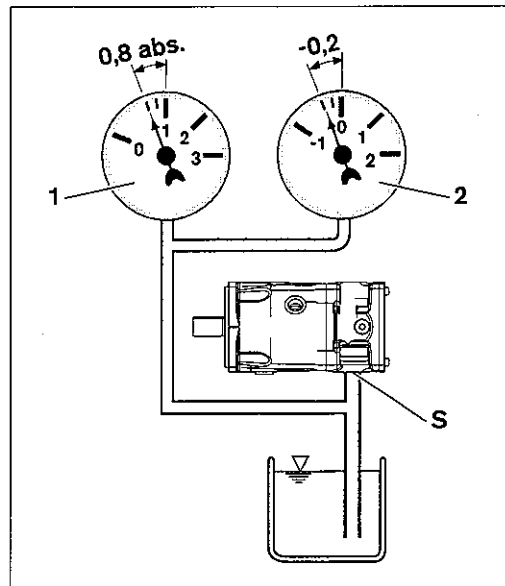

Fig. 24: Suction pressure
- Make certain that a minimum suction pressure of 0.8 bar absolute is present at port "S" during operation and on cold starts in all installation positions and installation locations for the axial piston pump, see Fig. 24. See data sheet for additional values.